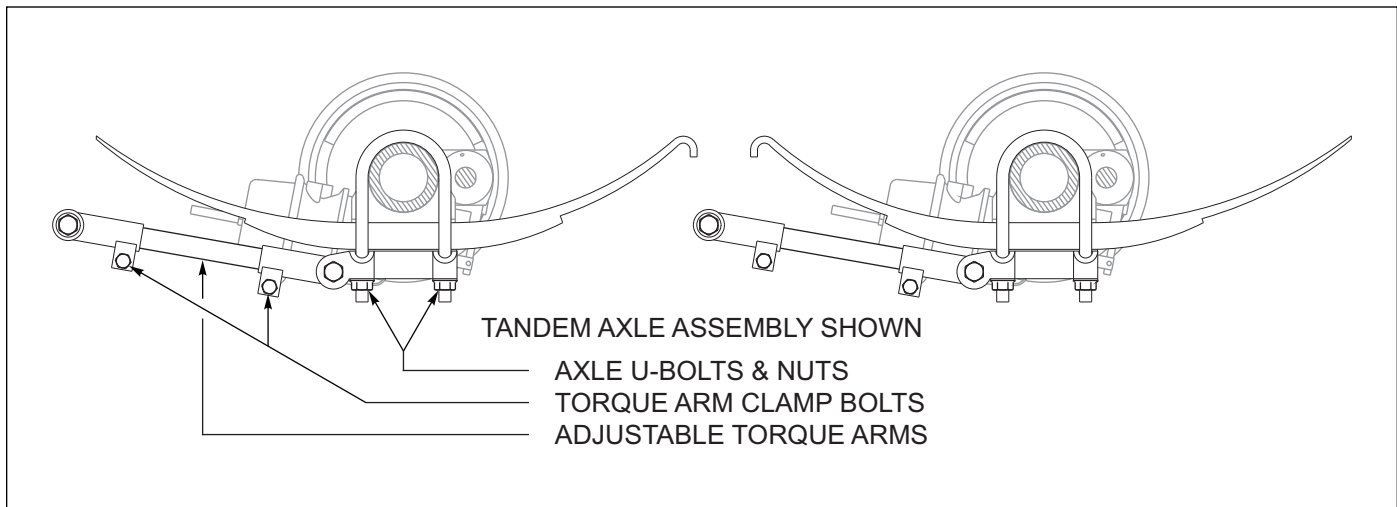

Figure 4-10: Spring Ride Adjustable Torque Arm
6. Align if measurement requires: Loosen the adjustable torque arm clamp bolts. Slightly loosen the axle u-bolt sets evenly on each side of the axle, *See Figure 4-10.*
7. Turn the adjustable torque arm clockwise or counter-clockwise to adjust. Repeat Steps 5-7 until measurement is achieved. *See Figure 4-10.*
3. Align if measurement requires: Loosen the adjustable torque arm clamp bolts. Slightly loosen the axle u-bolt sets evenly on each side of the axle, *See Figure 4-10.*
4. Turn the adjustable torque arm clockwise or counter-clockwise to adjust. Repeat Steps 5-7 until measurement is achieved. *See Figure 4-10.*